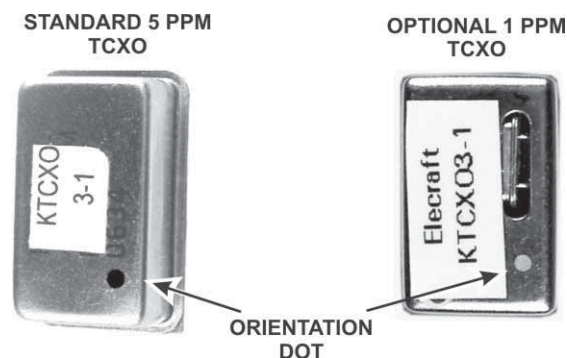

Figure 67. TCXO Modules.
- Locate the Temperature-Compensated Crystal Oscillator (TCXO) module. If you ordered the optional 1 ppm TCXO it will be supplied *instead* of the standard 5 ppm module (see Figure 67).